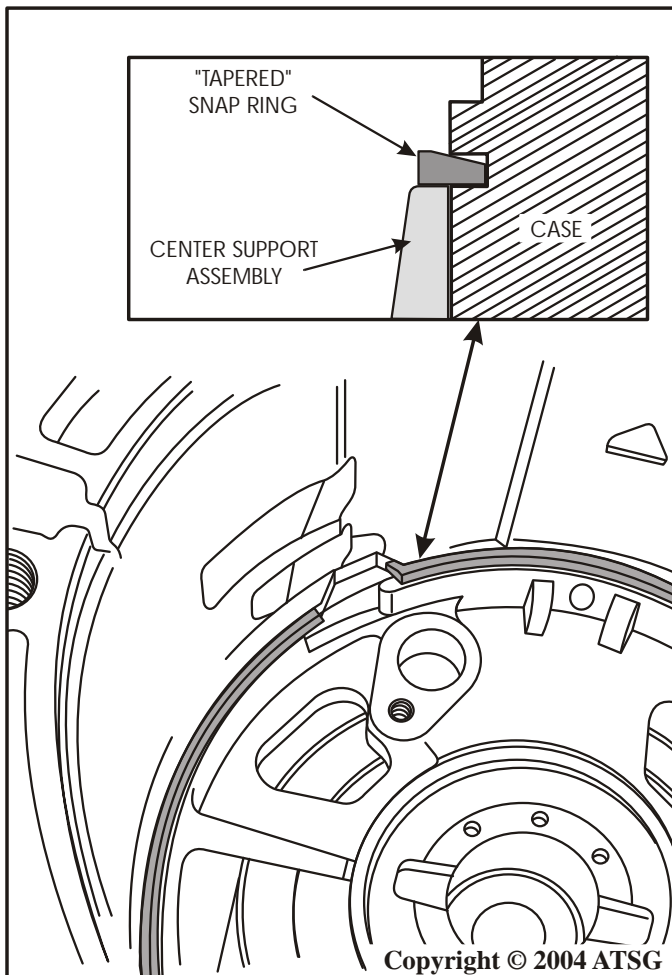

Figure 153
38. Install the center support snap ring with the opening in the snap ring to the opening in the center support, as shown in Figure 153.